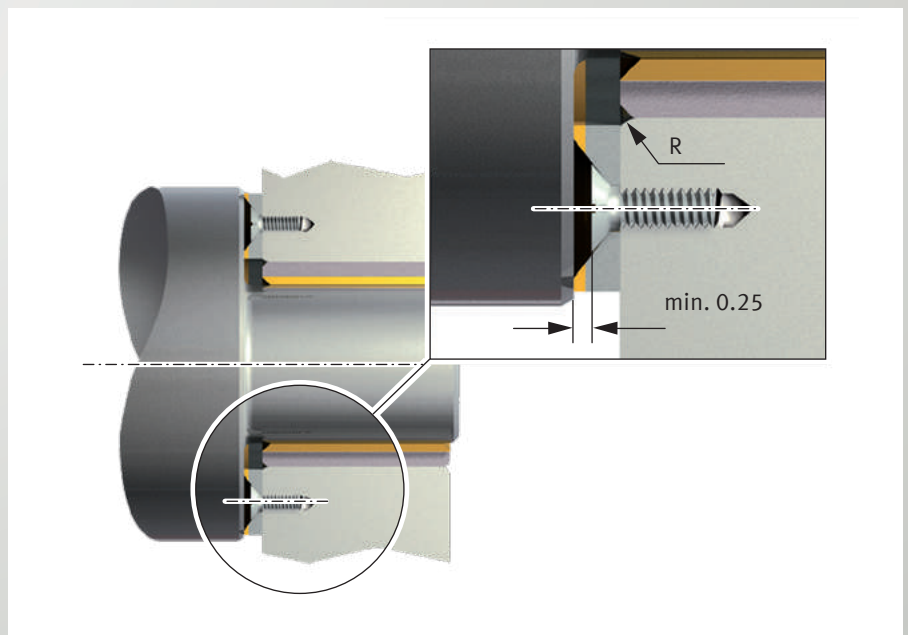

Fig. 42: Attaching a PAW thrust washer without a recess in the housing
- Secure with several register pins or screws (Fig. 42).